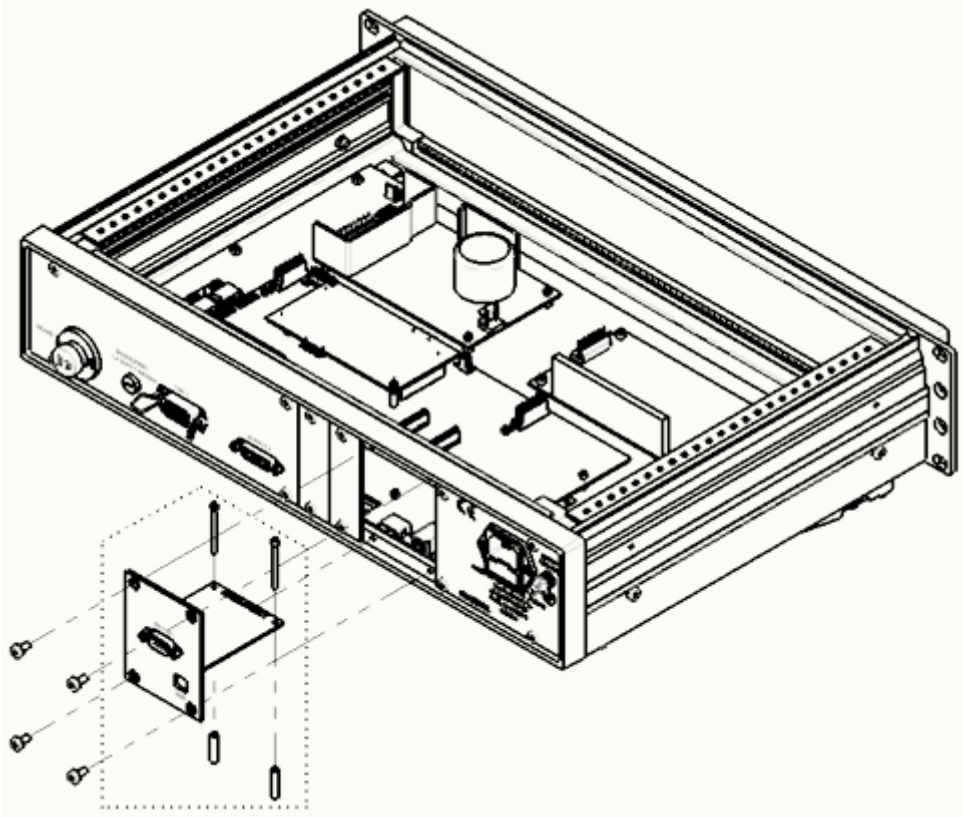

Figure 8-14 RS-232 Card Installation
3. Plug the RS232 card into the female header of main board as shown in Figure 8-14 RS-232 Card Installation. Ensure the component side of the RS-232 card is in left.